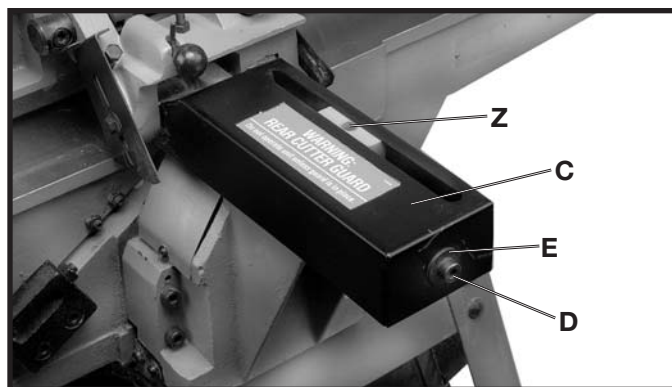
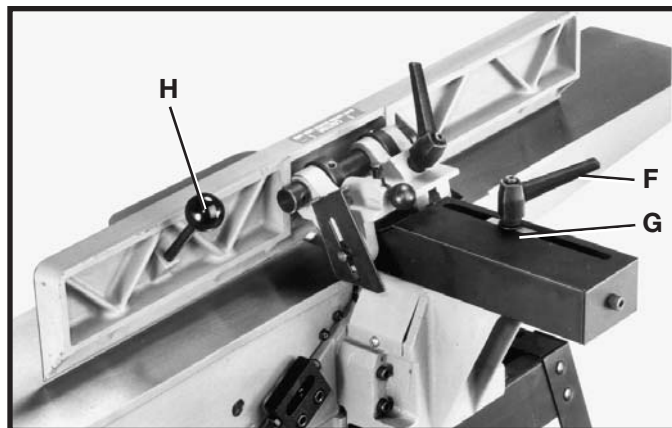

Fig. 21
Fig. 22
2. Remove the M8x1.25x12mm long screw (D) and M8.4 flat washer (E) from the end of hexagon rod. Assemble rear cutterhead guard (C) Fig. 21, to end of hexagon rod using the M8x1.25x12mm long screw (D) and M8.4 flat washer (E).
3. Thread fence locking handle assembly (F) Fig. 22, and M8.4 flat washer (G) into hole (Z) Fig. 21. Lock handle (F) Fig. 22, is spring-loaded and can be repositioned by pulling out the handle and repositioning it onto the serrated nut located under the handle.
4. Thread fence tilting handle (H) Fig. 22, to threaded hole in back of fence as shown.